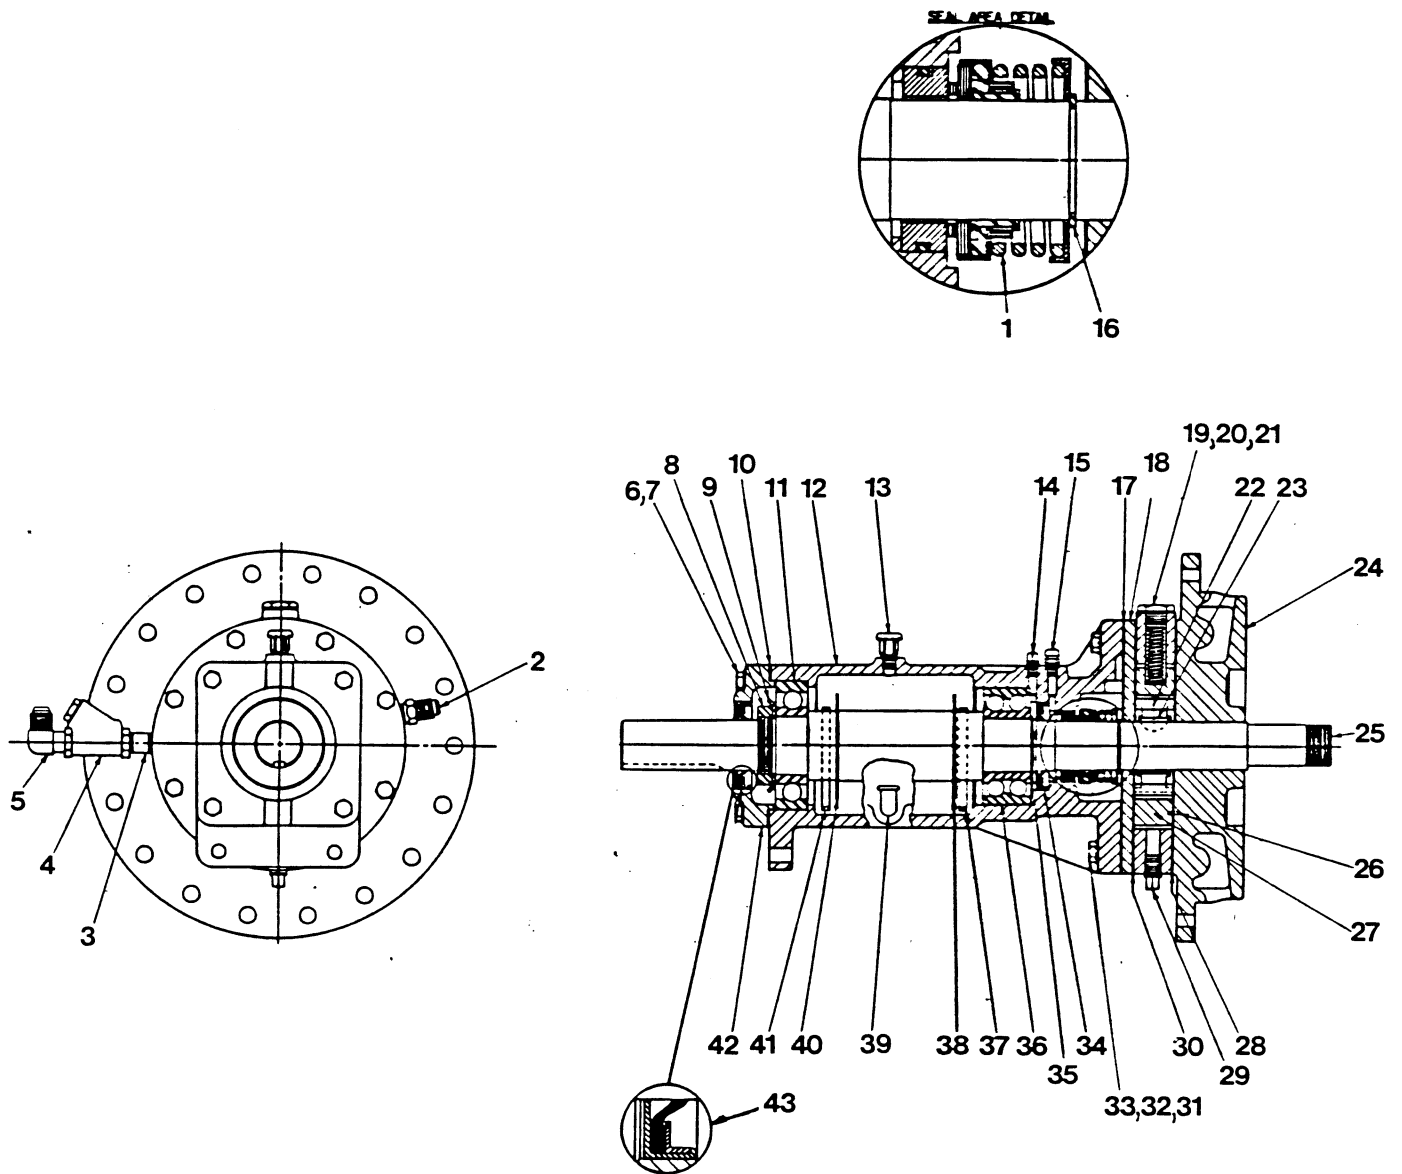
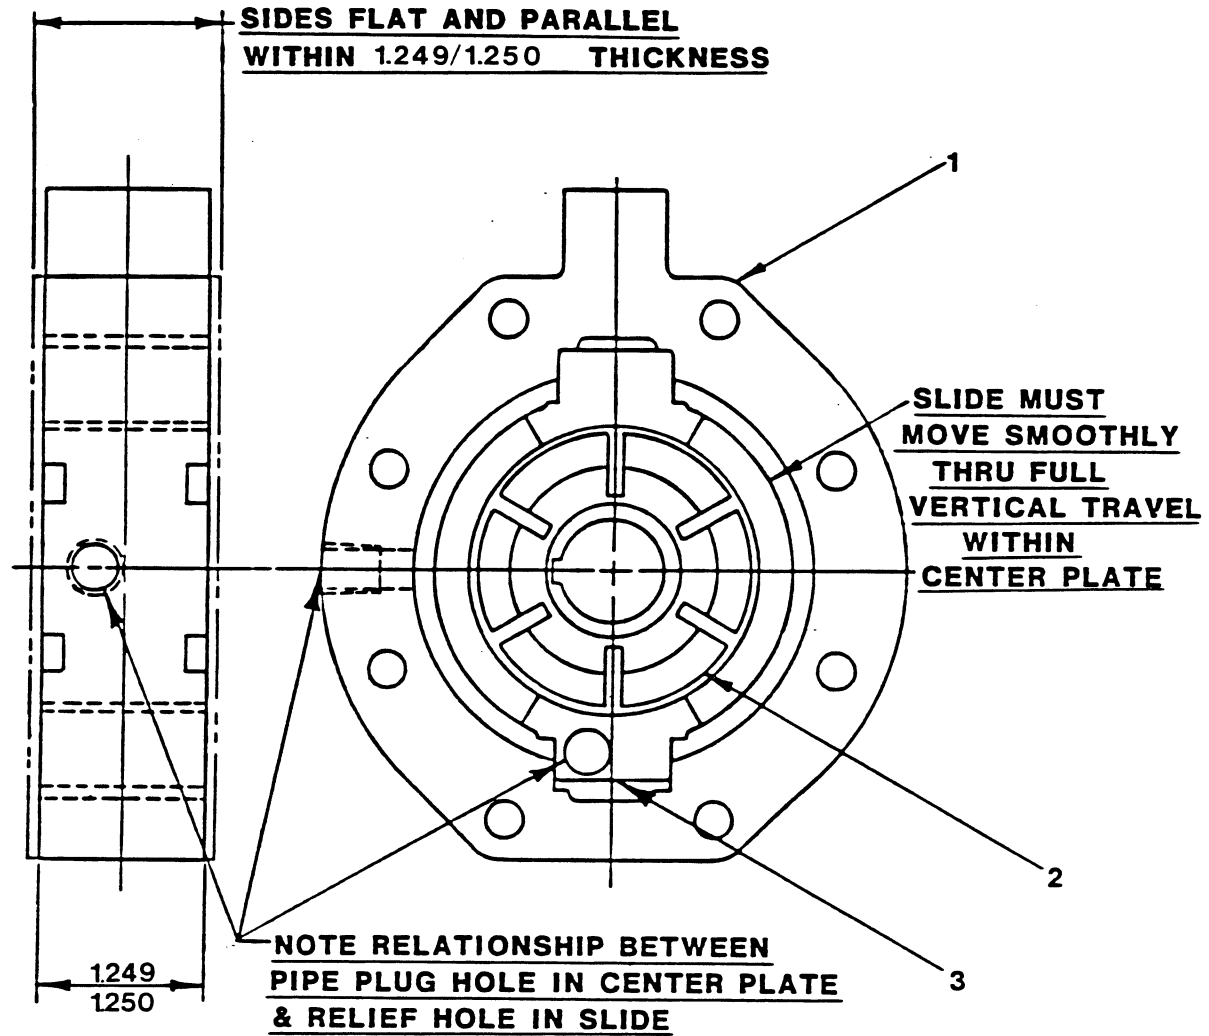

Figure 2. Bearing Housing Assembly R12924-02
Figure 3. Group Grind LK05268
Before attempting to service the pump, disconnect or lock out the power supply to prevent accidental start up. Close all valves in the suction and discharge piping and drain the pump casing and group grind by removing the drain plugs (16, Figure 1, and 29, Figure 2). Clean and reinstall the drain plugs.
Disconnect the suction and discharge piping from the pump casing. Disconnect the priming tube assembly (13) from the system check valve (not shown) and the priming tube check valve (4, Figure 2). Remove the pipe nipple, check valve, and male elbow (3, 4 and 5, Figure 2) from
Disconnect the suction tube assembly (10) from the connector (2, Figure 2) and pump casing, and remove the connector from the center plate (1, Figure 3).
(Figure 2)